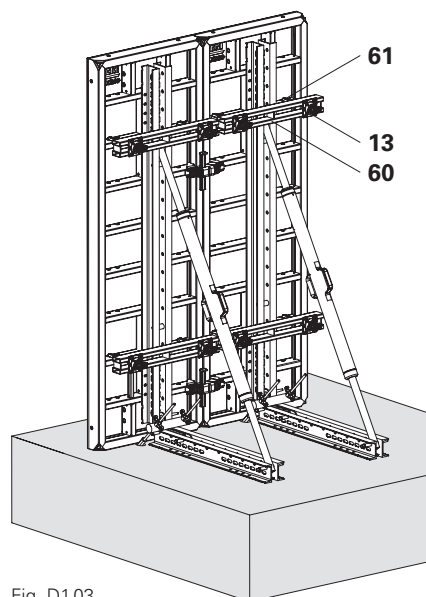

Fig. D1.03
1. Lay Waler 85 (60) over Steel Waler SRU 247 U120 (54).
2. Push two Hook Tie Heads DW15 ga (61) through Waler 85 (60) and hook them into the element.
3. Secure with Wingnut Pivot Plates DW15 ga (13).
4. Fix the second Waler 85 (60) into place in the same way. (Fig. D1.03)